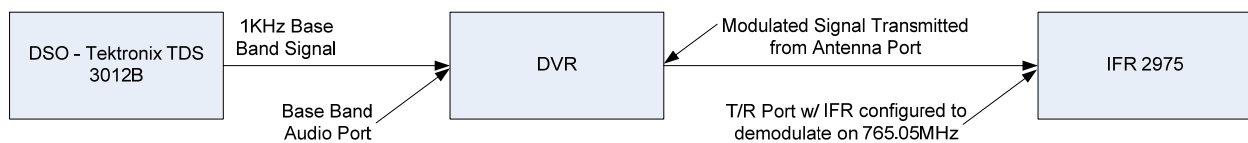

Figure 10: Block Diagram for DVR Receiver Frequency Deviation Test
1. Configure the RF spectrum analyzer to measure RF energy from 20 MHz to 500 MHz, which encompasses the VHF band where interference was observed. See Figure 10.